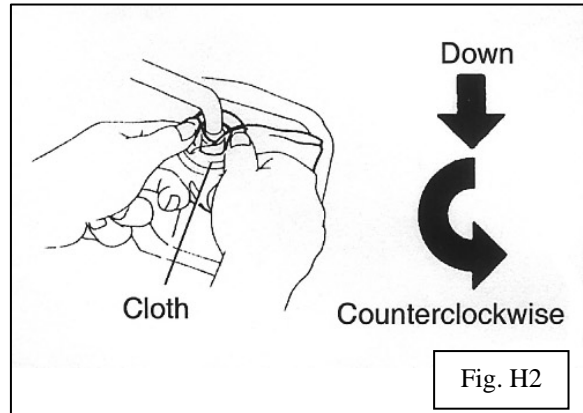

Fig. H2
- ➔ 2. Cover the shift lever cap with a cloth. Press down on the shift lever cap, and turn it counter clock-wise to remove the shift lever. (Fig. H2)